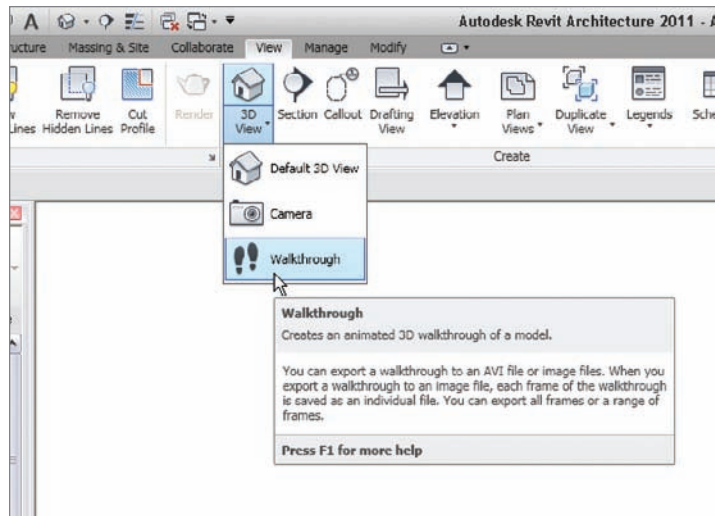

FIGURE 19.17 Finding the Walkthrough command
2. On the View tab of the Ribbon, choose 3D > Walkthrough, as shown in Figure 19.17.